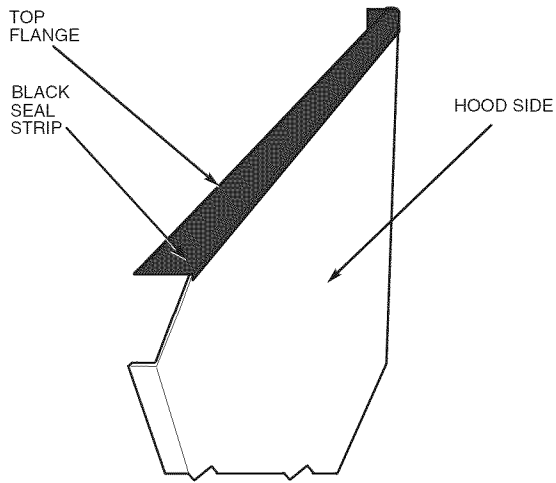

Fig. 23 — Adding Seal Strip to Top of Hood Sides
1. Apply black seal strip (provided) to outside top-edge of hood sides. Wrap seal strip over edge to cover top flange (6 hood sides). Make sure seal strip covers screw holes. Allow strip to overhang $\frac{1}{8}$ -in. past the end opposite the mounting flange. See Fig. 23.